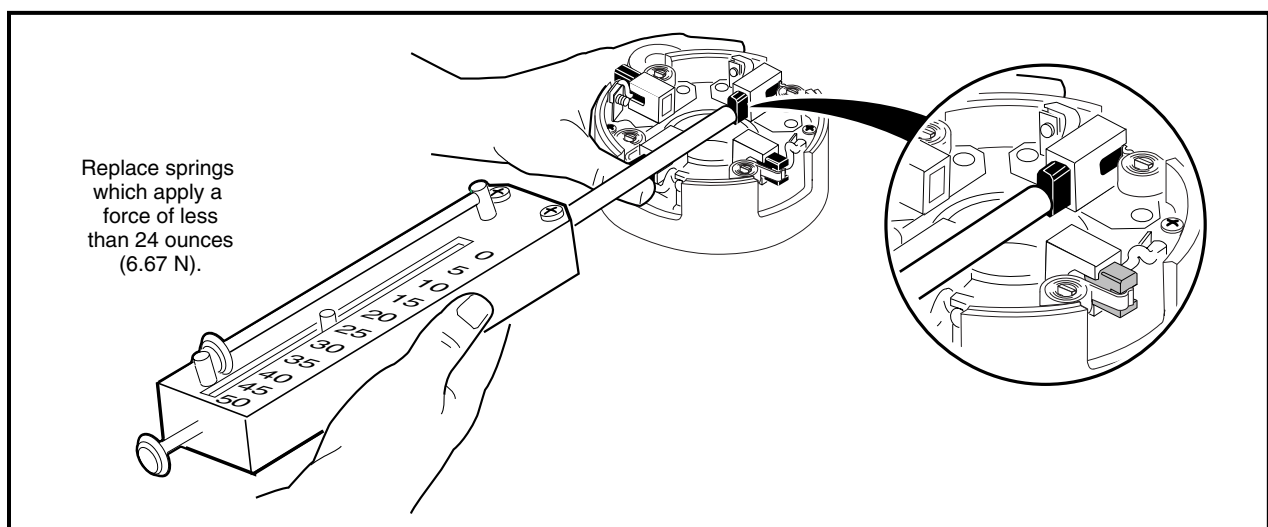

Figure 12a-6 Brush Spring Tension Test
1. Connect the brush wires to the holders using four lock washers (26) and four screws (25). Make sure the crossover leads are also connected. Tighten the screws to 31 in-lb (3.5 N·m) (**Figure 12a-4, Page 12a-2**).